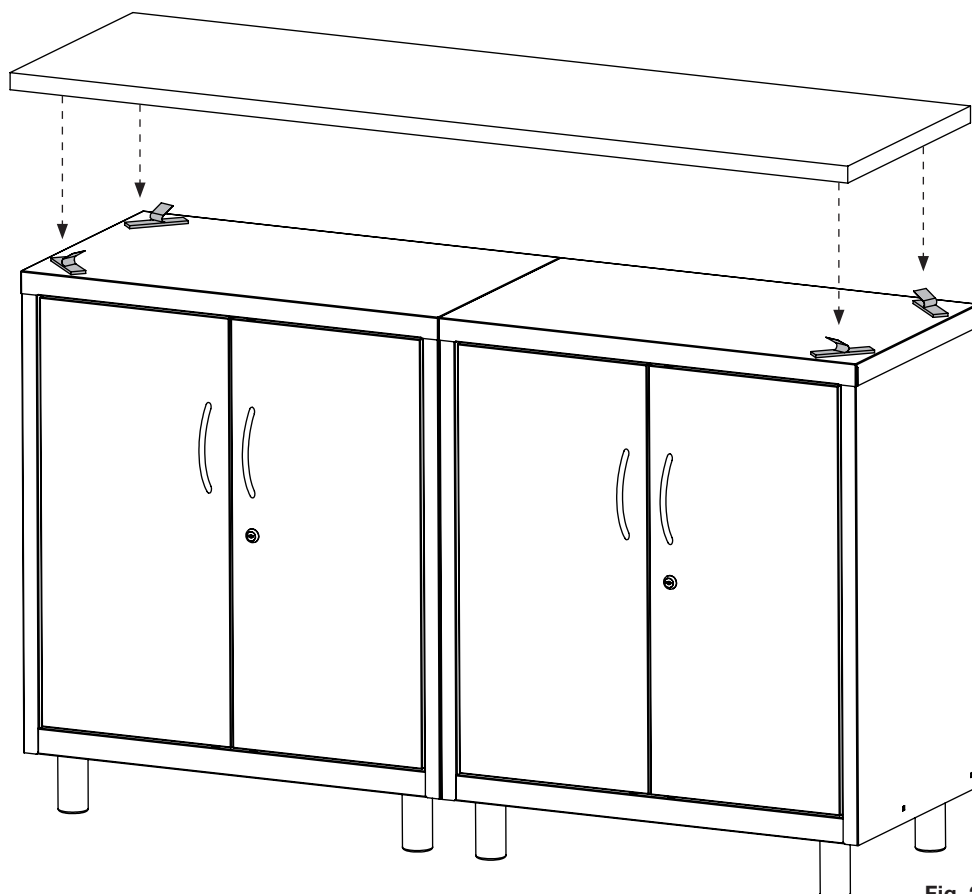

Fig. 2
3. Remove top layer of tape backing. Lower work surface into place, making sure that it goes on straight. Work surface will be difficult to adjust after being installed. [Fig. 2]